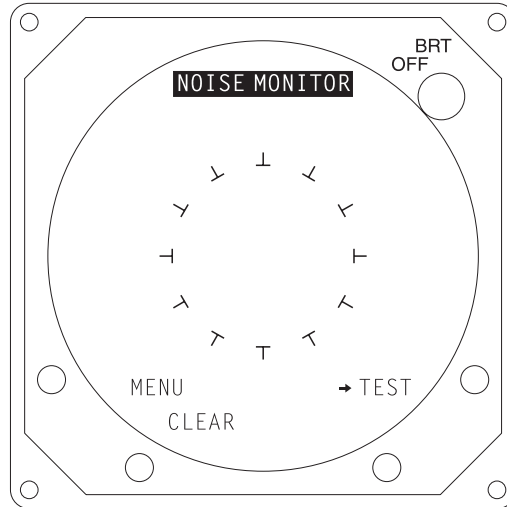

Figure 4-6. Noise Monitor
The noise monitor screen (see figure 4-6) displays indications of electrical noise as well as lightning/atmospheric electrical discharge activity that occurs within electrical range of the system. It is checked to see if electrical noise, that will interfere with normal system operation, is present. No compression is
- **NOISE MON** - returns to the Noise Monitor display (figure 4-6).
- Softkey (3) is not used.